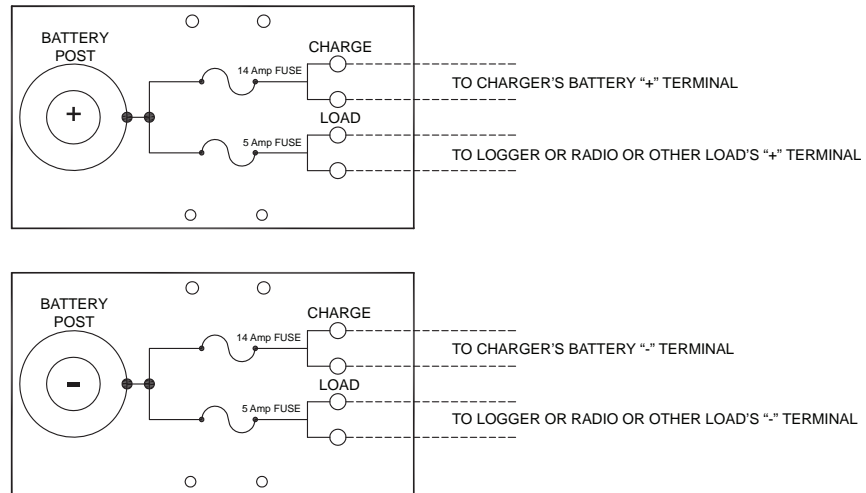

FIGURE 3-19. Battery terminal strip adapters for power connection to external battery
- 2b. If using a deep cycle marine battery, install Battery Terminal Strip Adapters (CSI p/n 4386) to each terminal of the battery as shown in FIGURE 3-19. Using the red and black power cable that ships with the CH200, plug the end with the two-pin connector into the receptacle on the CH200. Connect the black cable to the "charge" terminal on the Battery Terminal Strip Adapter installed on the battery's negative terminal. Connect the red cable to the "charge" terminal on the Battery Terminal Strip Adapter installed on the battery's positive terminal.
2. If using deep cycle marine battery along with the SP50 or SP85 solar panels, install Battery Terminal Strip Adapters (CSI p/n 4386) to each terminal of the user-supplied deep cycle battery as shown in FIGURE 3-19.